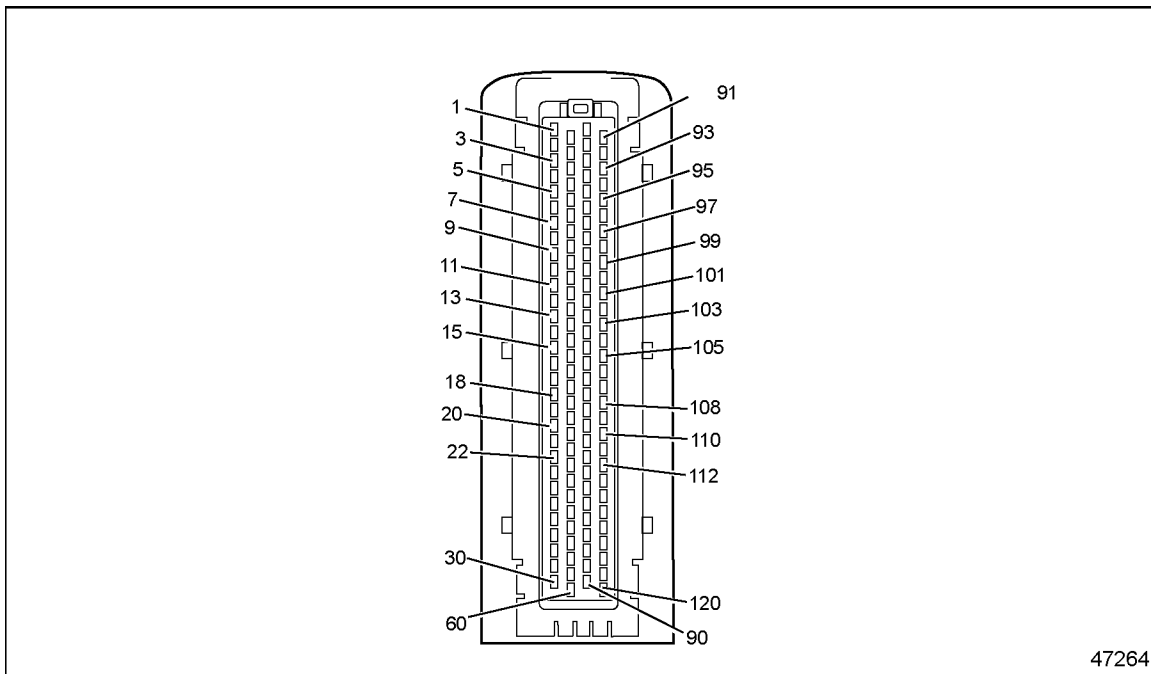

Figure 43-1 120-pin MCM Connector
- [a] If the voltage is less than 11.5 volts, repair the open between pin P of the 23-pin connector and pin 10 of the MCM 120-pin connector (see Figure 43-1) Refer to section 43.1.3.1.